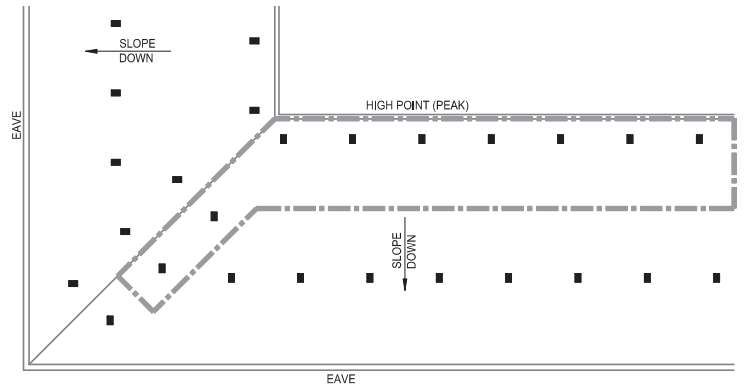

FIGURE 24B: 2 ROW PROTECTION CALCULATION 1
- Calculation #1: Calculate the 7 most hydraulically demanding contiguous DS sprinklers located along the high point (peak) plus the 2 most demanding sprinklers along the hip line. See FIGURE 24B.